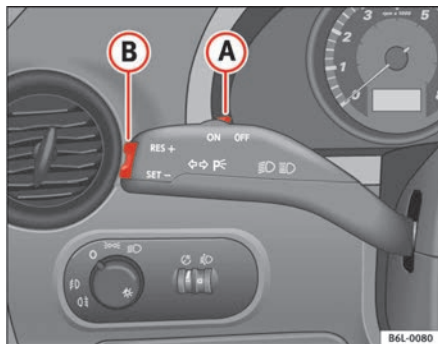

Fig. 102 Turn signal and main beam headlight lever switch and rocker switch for the cruise control
- Move the control ⇒ fig. 102 **A** to the left to **ON**.